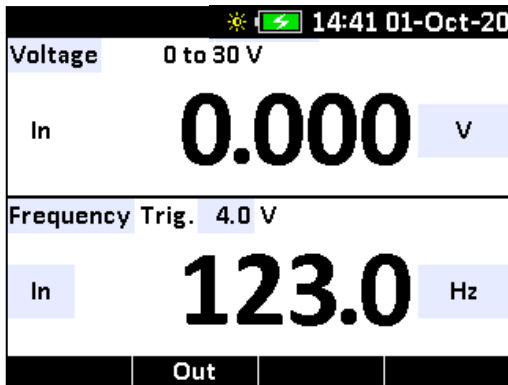

Figure 1
5. Connect the leads, as shown in Figure 1.